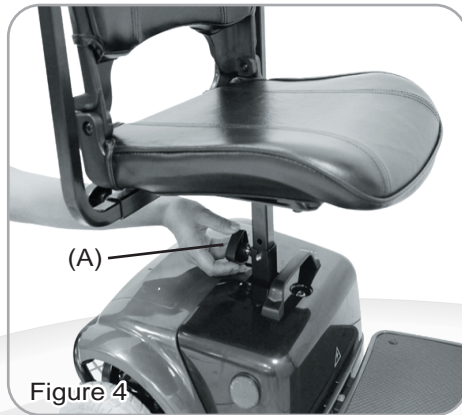

Figure 4
Remove the seat by loosening the seat Locker Knob (A) and then lift. away. (See Fig. 4)